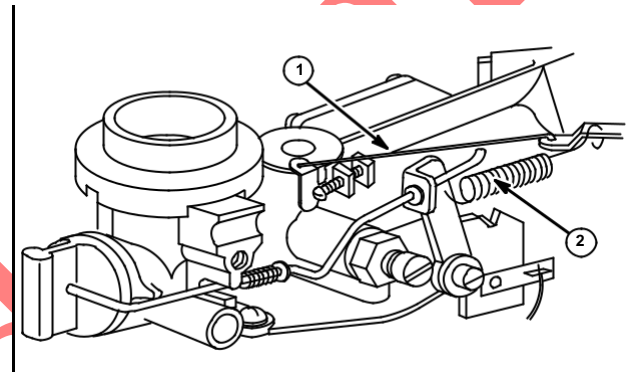

Fig. 90
2. Hook throttle link (1) into carburetor throttle and governor blade.
4. Install governor spring (2), Fig. 90.